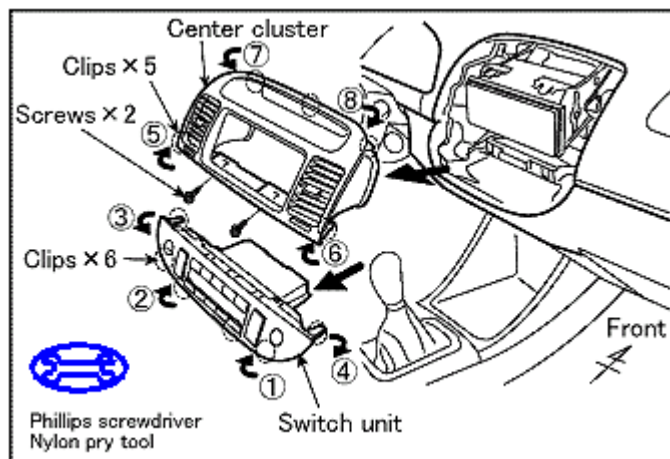

Figure A1
-  3. Use nylon pry tool to disengage clips at positions 1 and 2, in numerical order shown to the switch unit. Next remove positions 3 and 4. (Figure A1)
-  4. Use nylon pry tool to disengage clips at positions 5 and 6, in numerical order shown to the center cluster. Next remove positions 7 and 8. (Figure A1)